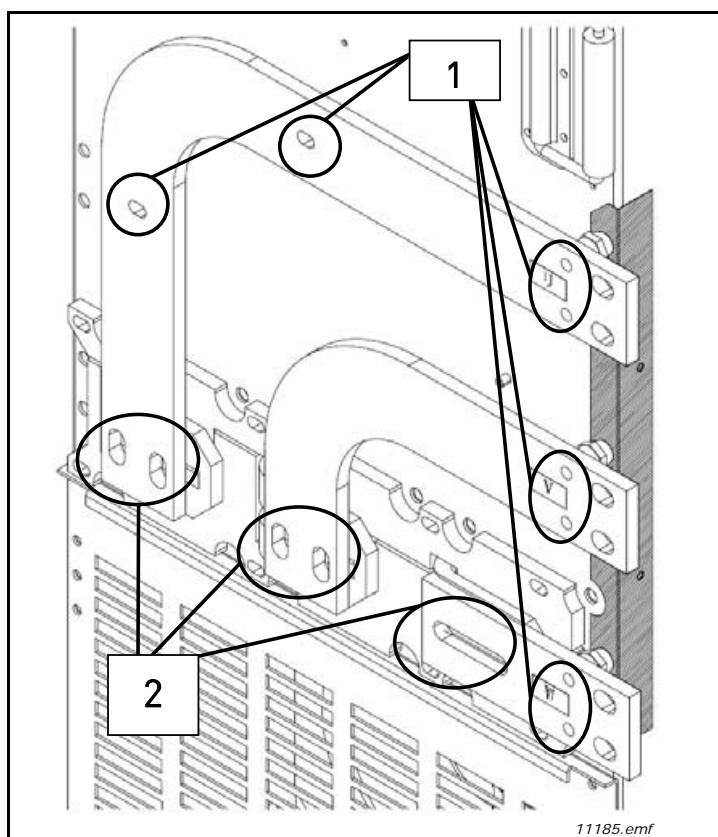

Figure 29. Right-side connection
1. Open fastenings numbered by 1 in Figure 29.
2. Open fastenings numbered by 2 in Figure 29.